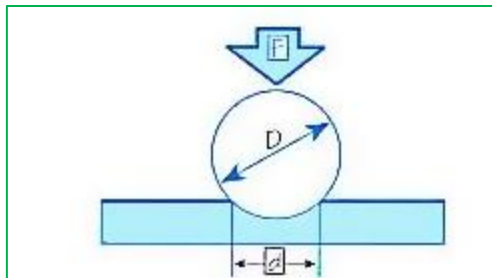

fig.2.1: Brinell hardness test
3. The specimen prepared as per the given dimensions in fig.2.1